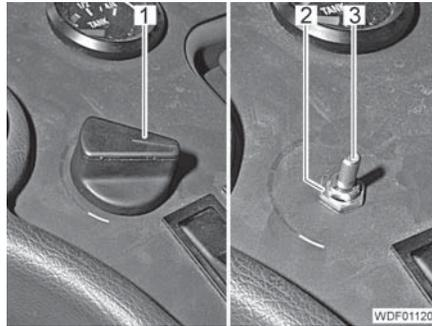
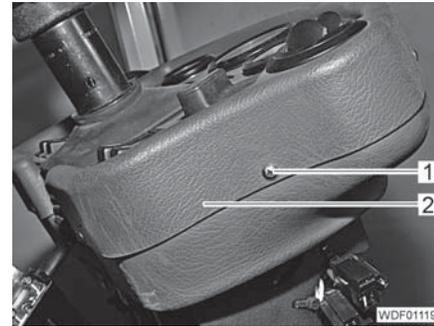

Fig. 459 Knob of the temperature sensor
Fig. 460 Instrument panel attachment
- Pull off the knob (Fig. 459,1) of the temperature sensor.
- Unscrew the nut (Fig. 459,2).
- Unscrew the 6 screws (Fig. 460,1).
- Carefully lift up the instrument panel (Fig. 460,2) until the instrument lighting are accessible.
- Carefully position the instrument panel (Fig. 460,2) so that the operating part (Fig. 459,3) protrudes through the hole.
- Screw in and tighten the 6 screws (Fig. 460,1).
- Screw the nut (Fig. 459,2) onto the operating part (Fig. 459,3) and tighten it hand-tight.
- Fit the knob (Fig. 459,1) onto the operating part.